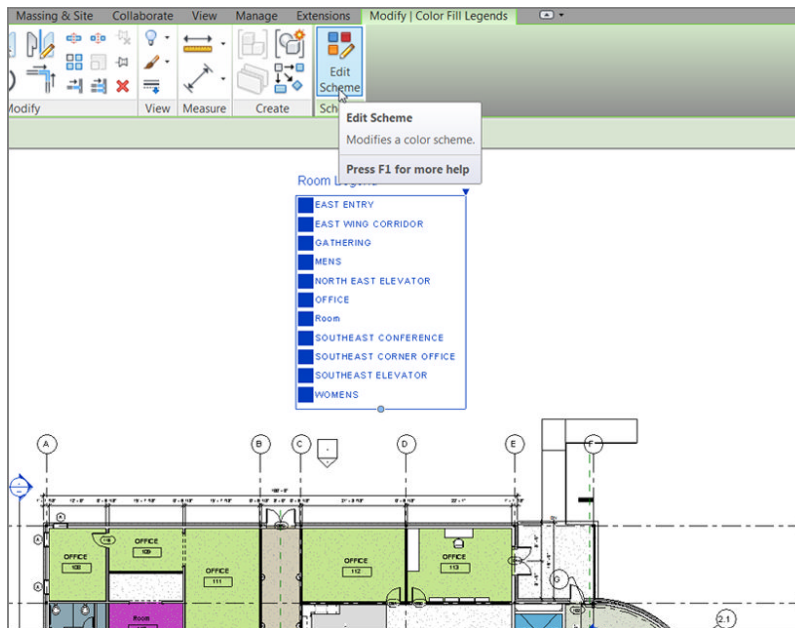

FIGURE 15.19: Proceeding to edit the scheme
11. Click the Edit Scheme button on the Modify | Color Fill Legends tab, as shown in Figure 15.19.